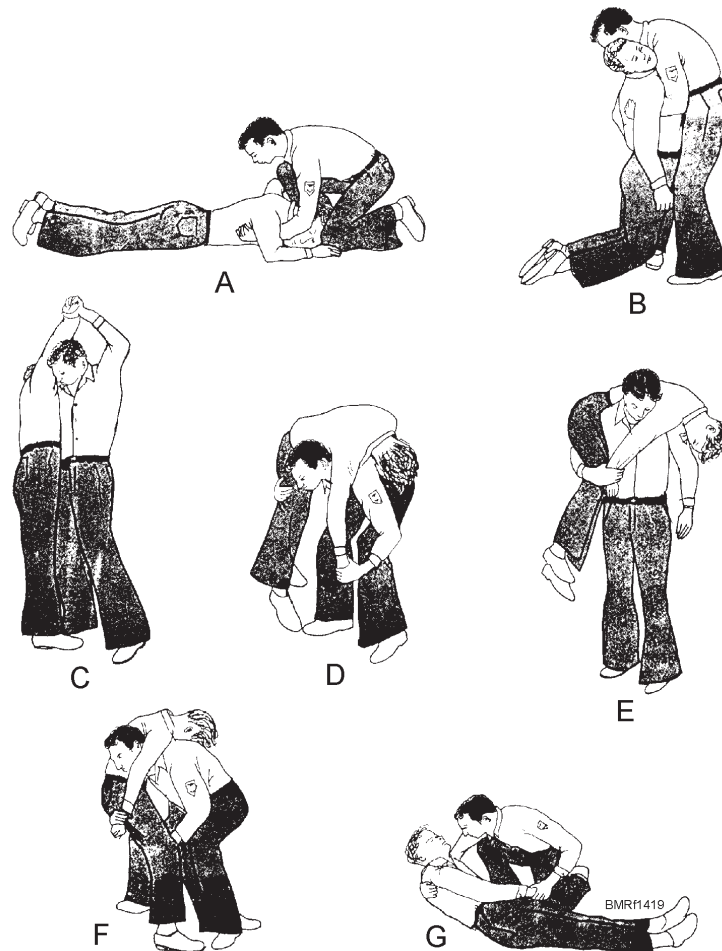

Figure 14-19.—Fireman's carry.
One of the easiest ways to carry an unconscious person is by the fireman's lift, also called the *fireman's carry* (fig. 14-19).
1. Place the victim face down, as shown in figure 14-19, view A. Kneel on one knee at the head, facing the victim. Pass your hands under the armpits.
2. Raise the victim, as shown in figure 14-19, view B. Take a better hold across the back.
3. Raise the victim to a standing position and stick your right leg between the victim's legs, as shown in figure 14-19, view C. Grasp the victim's right wrist in your left hand and swing the arm around the back of your neck and down your left shoulder.
4. Stoop quickly and pull the victim across your shoulders and, at the same time, put your right arm between the victim's legs, as shown in figure 14-19, view D.
5. Grasp the victim's right wrist with your right hand and straighten up, as shown in figure 14-19, view E.
The procedure for lowering the victim to the deck is shown in figure 14-19, views F and G.